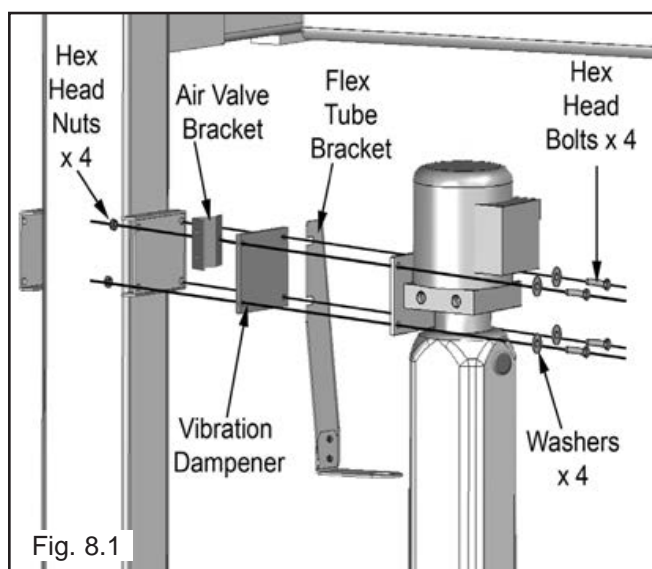

Fig. 8.1
1. Mount the POWER UNIT to the Mounting Bracket using the M10 Hex Bolts and Nylock nuts then FILL THE RESERVOIR with 20-quarts of 10-WT hydraulic oil or Dexron automatic transmission fluid. (See Fig. 8.1)